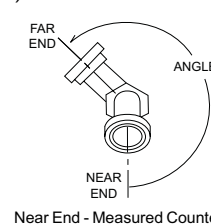

Figure AC.6
- 2) **Near End Reference - Measured Counter-Clockwise:** Using the nearest end as a base reference the angular displacement is measured counter-clockwise to the center line of the far end (refer to figure AC.6).